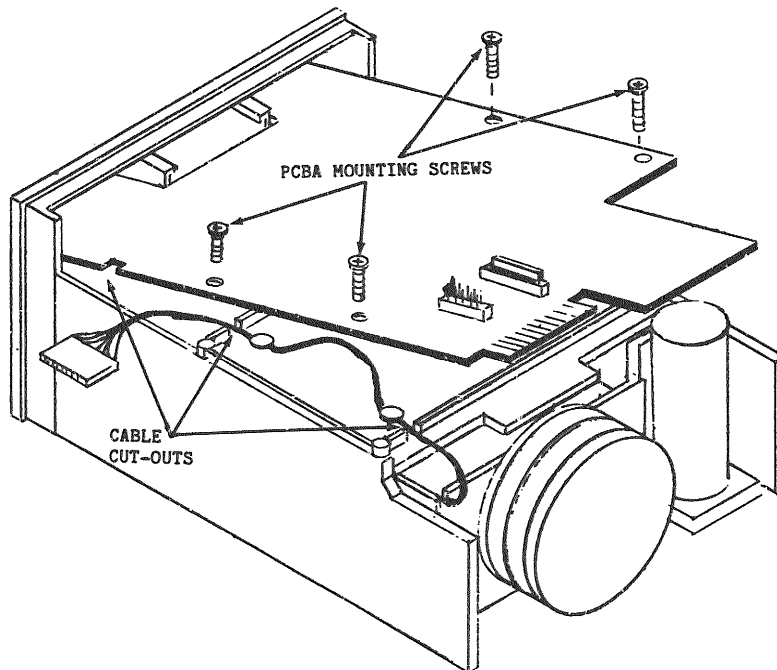

Figure 6-1. PCBA Mounting Details
- c. Remove the four screws that attach the PCBA to the chassis (see Figure 6-1), and lift the PCBA off the drive mechanism.